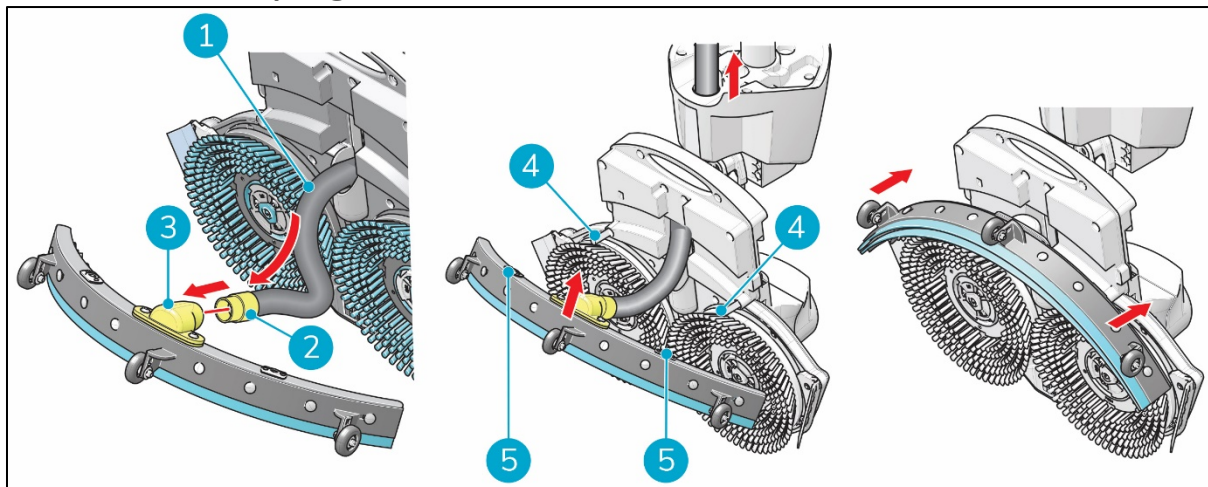

Figure 10
1. Take the vacuum hose (Figure 10, pos 1).
2. Insert the hose connector (Figure 10, pos 2) in the squeegee (Figure 10, pos 3).
3. Twist the hose connector 1/4 turn for a firm fit (Figure 10, pos 2).
6. Align the pins on the scrub deck (Figure 10, pos 4) with the holes on the squeegee (Figure 10, pos 5).